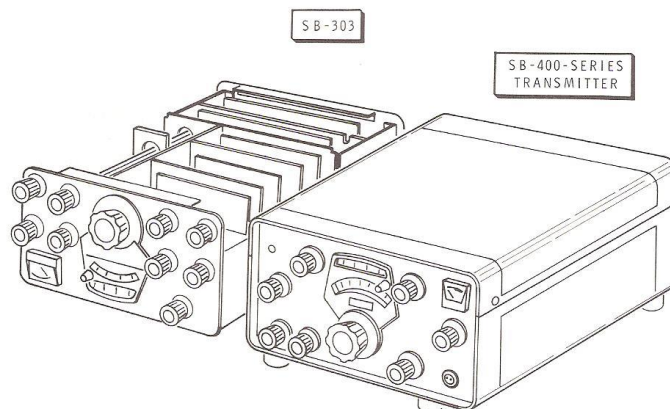

Figure 8
- () 1. Position the Receiver and your transmitter as shown in Figure 8.